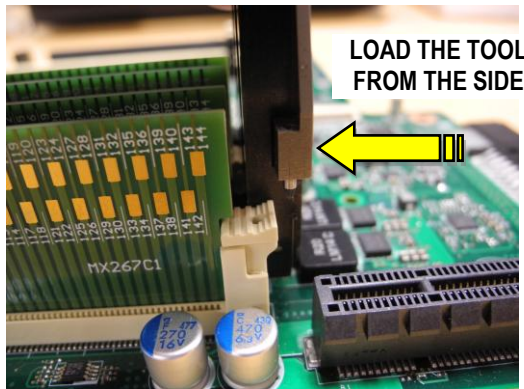

Figure 2
- Approach the socket from the side with the extraction tool (the tool cannot be placed on the sockets directly from the top). See Figure 2.